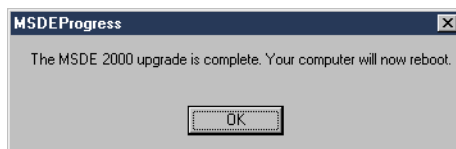

Figure 2-10. MSDE 2000 Upgrade Complete
- c. When the upgrade is complete, a message will inform you that your workstation must reboot (see Figure 2-10).